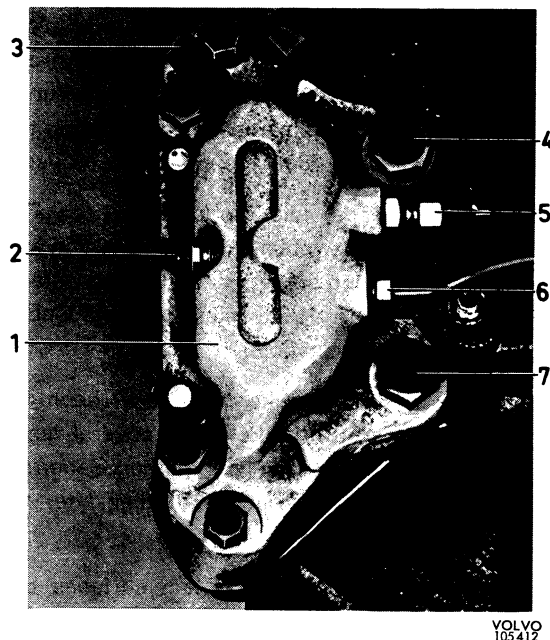

Fig. 5-20. Front wheel brake unit fitted
3. Disconnect the connections 5 and 6, Fig. 5-20 from the brake.